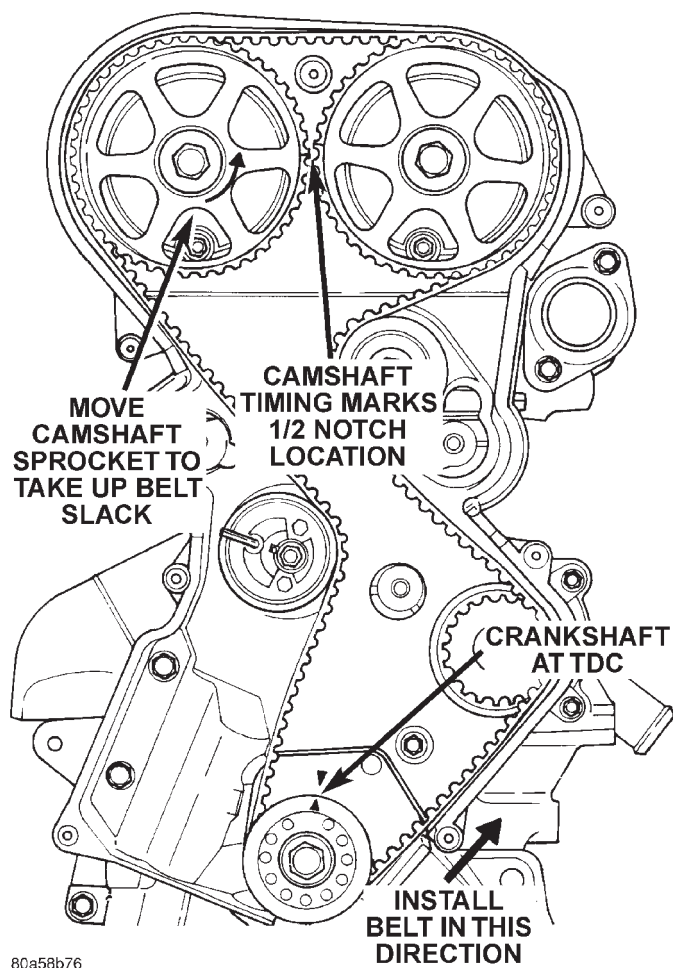

Fig. 58 Timing Belt—Installation
(3) Install timing belt. Starting at the crankshaft, go around the water pump sprocket, idler pulley, camshaft sprockets and then around the tensioner (Fig. 58).
(4) Move the exhaust camshaft sprocket counter-clockwise (Fig. 58) to align marks and take up belt slack.